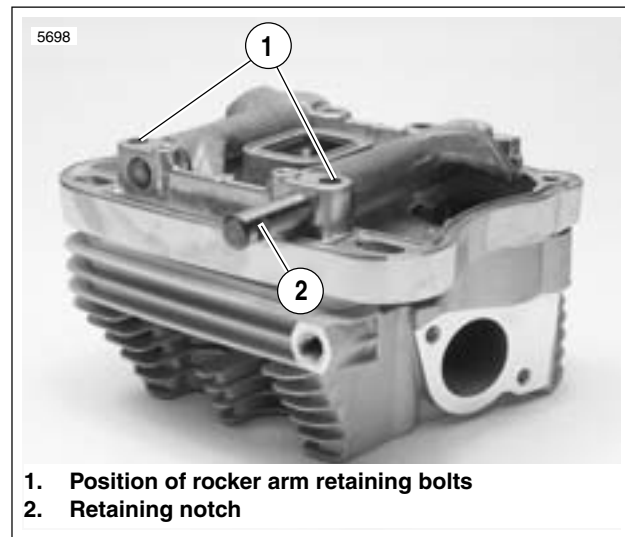

Figure 3-44. Removing Rocker Arm Shafts (Typical)
10. See Figure 3-44. Remove rocker arm shafts by tapping them out using a hammer and a soft metal punch.